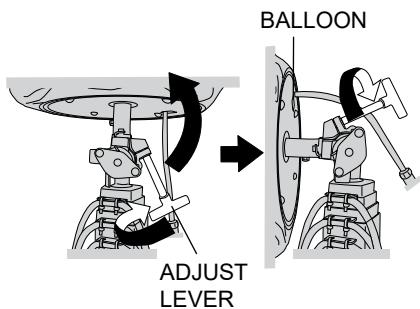

Figure 26. Loosen Adjust Lever
1. Loosen the adjust lever (Figure 26). With your hands on the lamp, carefully tilt the adjust lever diagonally upwards. This will position the balloon light assembly horizontally.